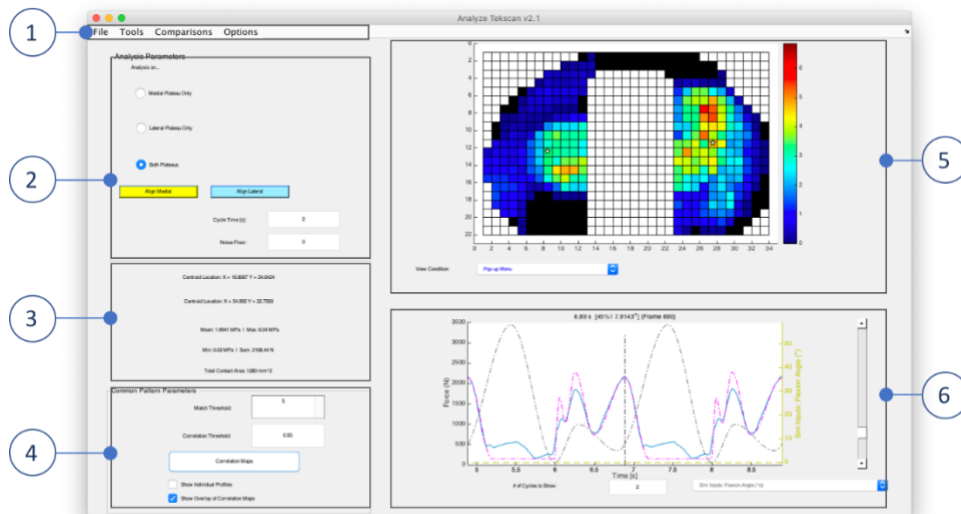

Figure 1: Tekscan Analysis Program Graphical User Interface (GUI)
The graphical user interface is broken up into 6 major sections that are shown in Figure 1 above.
- 1) To open a Tekscan exported csv, click 'File' -> 'Open...' or press Ctrl + O to open the menu dialogue. Figure 1 shows the GUI once you run the program in MATLAB.